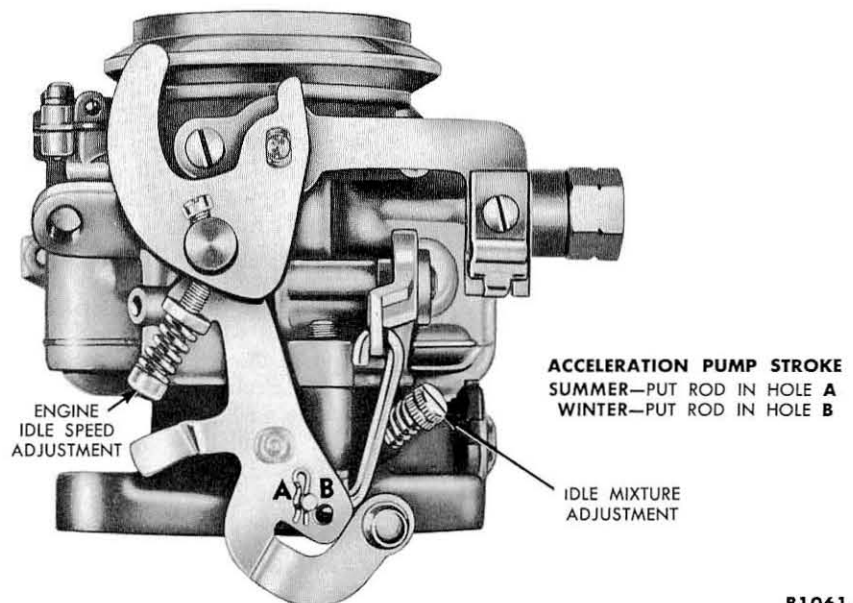

FIG. 14—Single-Barrel Carburetor Adjustments
SINGLE BARREL. The pump stroke is controlled by changing the position of the pump link in the throttle lever (Fig. 14). The inner
which the truck is to be operated. Refer to Fig. 14, 15, or 16.
30. Check and Adjust Idle Fuel Mixture (Refer to Fig. 14, 15, or 16).